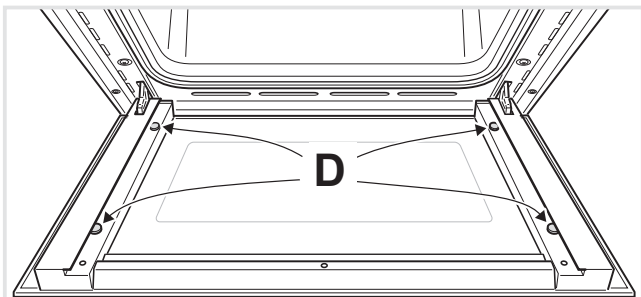

Figure 35
- Check that the four rubber pads are in place ("D" in Fig. 35).